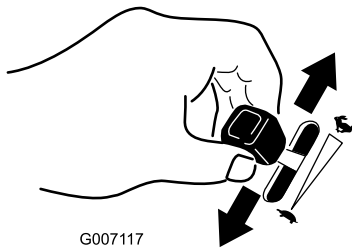

Figure 25
6. Move the throttle lever to the desired setting (Figure 25).